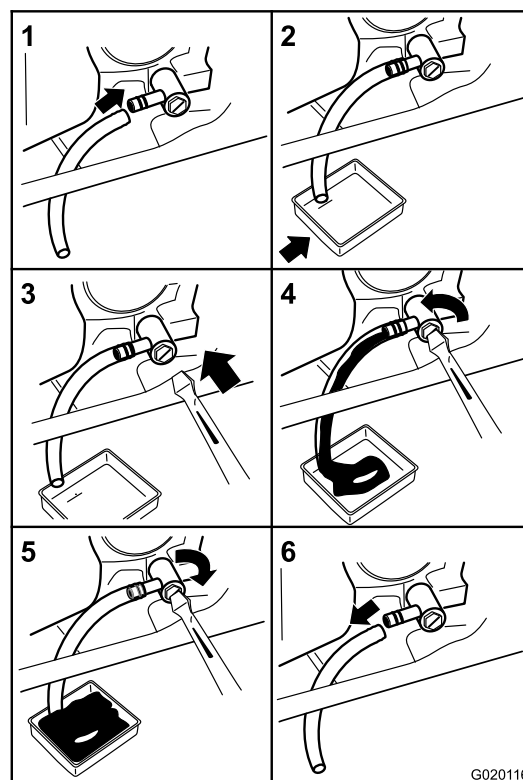

Figure 31
3. Stop the engine, remove the key, and wait for all moving parts to stop before leaving the operating position (Figure 31).